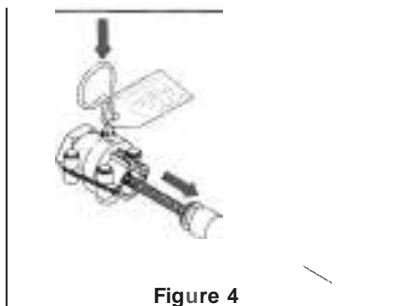

Figure 4
**STEP 2.** Place end of hitch pin in hole as shown and apply pressure while pulling the cable body away from the helm (See Figure 4)